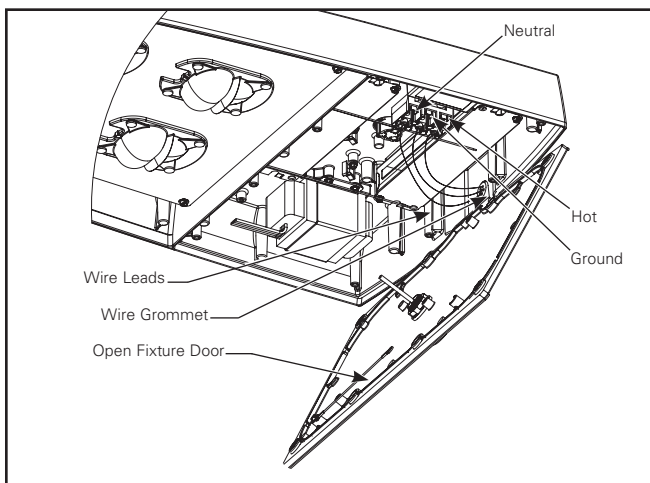

Figure 8.
3. Open fixture door by loosening the (8) Phillips head screws (or thumb screws if supplied) on the door as shown in (Figure 8).
4. Remove wire grommet for fixture wires at the back of the fixture as shown in (Figure 8). Once removed, fixture is no longer IP rated.